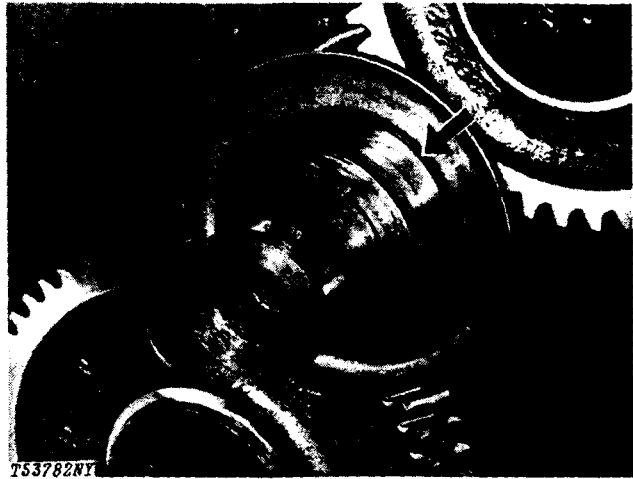

Fig. 12-Crankshaft Front Wear Ring
- Slide wear ring off of crankshaft (Fig. 12).